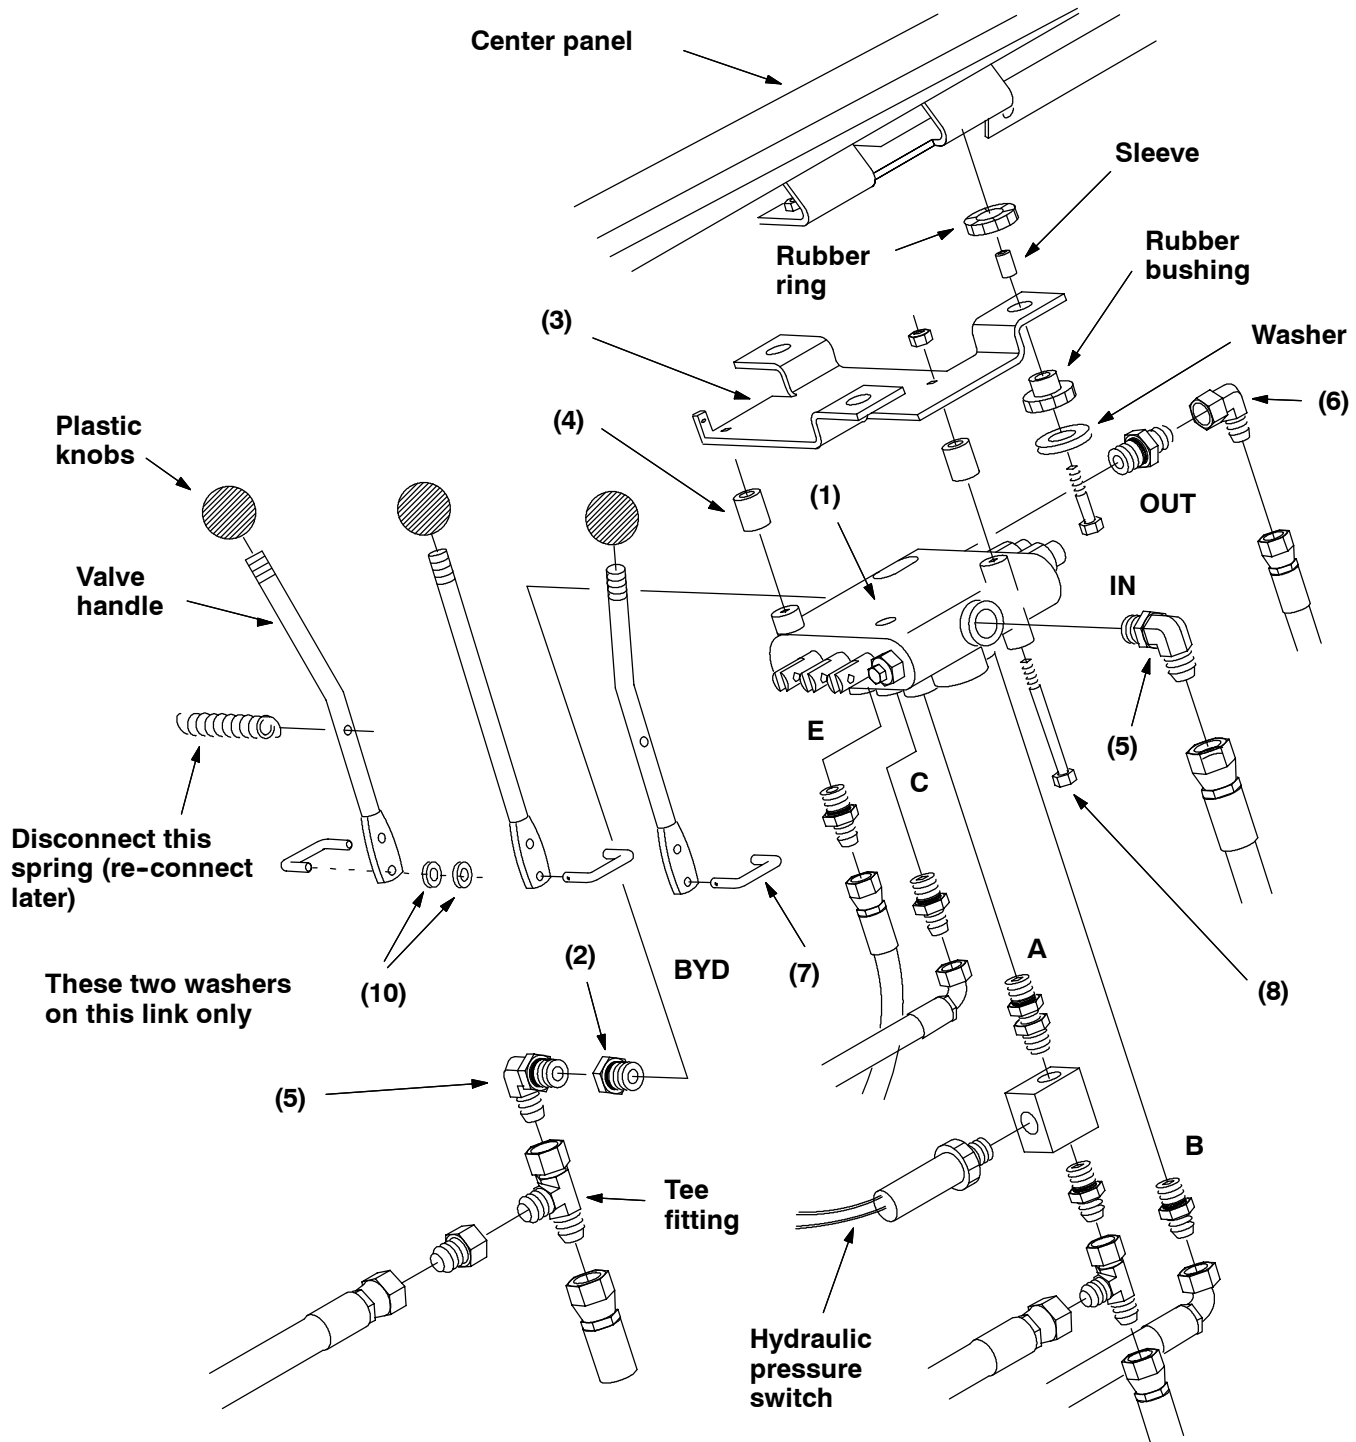

FIG. 4 - 355E Valve Installation
(Refer to Fig. 4)
1. Remove and retain the hair pins and clevis pins holding the three handles to the old valve. Remove and retain the three valve handles. Discard the three valve handle links. (Refer to Fig. 4)
2. Remove the existing fittings from the **A**, **B**, **C**, and **E** ports on the old valve. Install these fittings in the new valve (1) in the same orientation as they were removed. (Refer to Fig. 4)
NOTE: Make sure the fitting block containing the pressure switch is carefully oriented when reinstalling the fittings in the new valve. (Refer to Fig. 4)
3. Remove the straight fitting in the **OUT** port of the old valve and install in the new valve (1) in the same location. (Refer to Fig. 4)
5. Install the plug assembly (2) in the **BYD** port of the new valve (1). (Refer to Fig. 4)
6. Install the 90° fitting (6) on the straight fitting installed in step 3. (Refer to Fig. 4)
7. Install the 90° fitting (5) in the **IN** port of the new valve (1). (Refer to Fig. 4)
8. Install the old valve handles on the new valve (1) using the new handle links (12). (Refer to Fig. 4)
NOTE: Make sure the straight handle is installed in the center position and the handles with a bend are installed with the top of the handle pointing outward. (Refer to Fig. 4)
9. Install the new valve mount bracket (2) in the machine using the three washers, rubber bushings, sleeves, and rubber rings that were removed in step 7 of the TO REMOVE OLD VALVE instructions. Tighten the hardware firmly. (Refer to Fig. 4)
10. Position the new valve assembly in the machine. Carefully push the valve handles up through the rubber boot. A small amount of WD40 or other lubricant will make this easier. (Refer to Fig. 4)
11. Attach the new valve assembly to the new valve mount bracket (2) using the two hex screws (13), two sleeves (3), and two nyloc nuts (14). *The sleeves are placed between the valve and valve mount bracket.* Tighten the hardware to 7 – 10 ft lb. (Refer to Fig. 4)
12. Reconnect the hydraulic hoses to the new valve (1) starting from most inside fitting and working outward. (Refer to Fig. 4)
13. Reinstall the plastic knobs to the three valve handles. (Refer to Fig. 4)
14. Install the 90° fitting (5) in the straight fitting installed in step 5. (Refer to Fig. 4)
15. Reconnect the hydraulic pressure switch to the main electrical harness. (Refer to Fig. 4)
NOTE: Make sure the wires and hoses are properly tied out of the way of any moving components. (Refer to Fig. 4)
16. Start the machine and operate the hydraulic components. Check the new valve and hoses for any leaks. Turn off the machine and check the hydraulic fluid reservoir for proper fluid level. (Refer to Fig. 4)